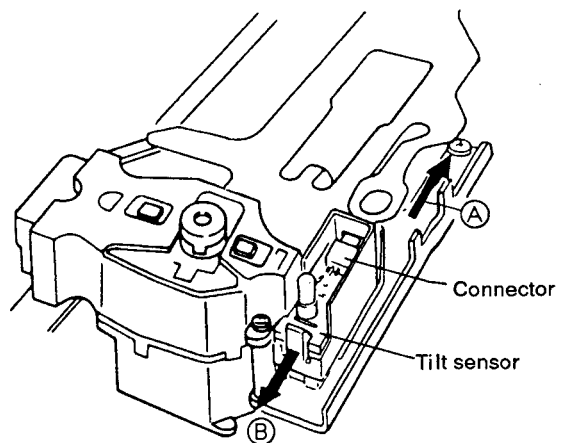

Fig. 7-9
7.7 REMOVING THE TILT SENSOR (Fig. 7-9)
- ① Remove the connector (arrow (A)) of the flexible cable and release the claw (arrow (B)) to remove the tilt sensor.